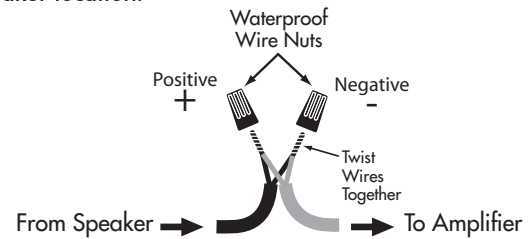

Figure 4
11. Connect the direct burial wire to each speaker wire, connections should be made with either silicone filled wire connectors or appropriate junction boxes. See Figure 4.